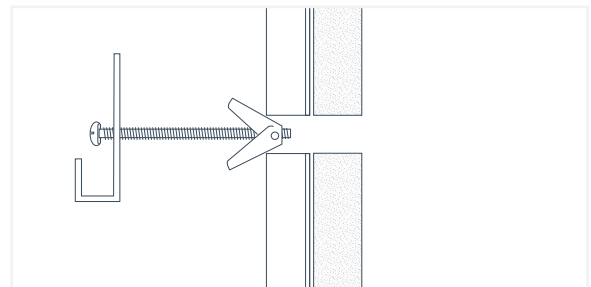

Fig. 43
2. Put the bolt through whatever mounting device you are using and ensure the end of the bolt is screwed into the center of the toggle so that the wings can be folded down on to the threads of the bolt (Fig. 43).